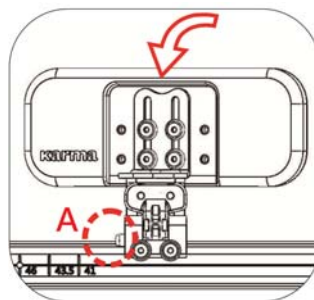

Figure 5-132
5.3.11.2 Upon pressing the shaft A, the hip support can be swung outwards. (Figure 5-132)